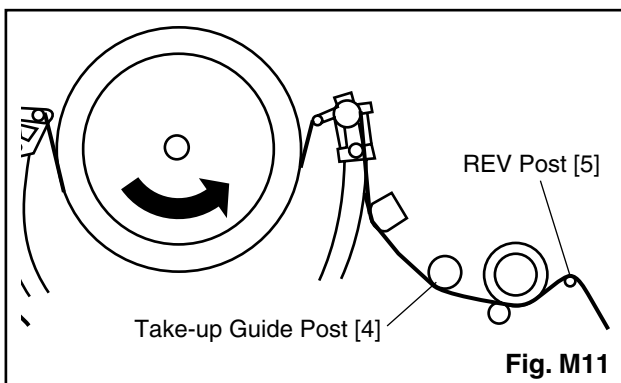

Fig. M11
1. Insert a blank cassette tape into the tray and set the unit to REV. Then confirm if the tape has been curled up or bent at the Take-up Guide Post[4] or REV Post[5]. (Refer to Fig. M11 and M12.)
2. When the tape has been curled up or bent, turn the alignment screw to adjust the height of REV Post. (Refer to Fig. M11 and M13.)